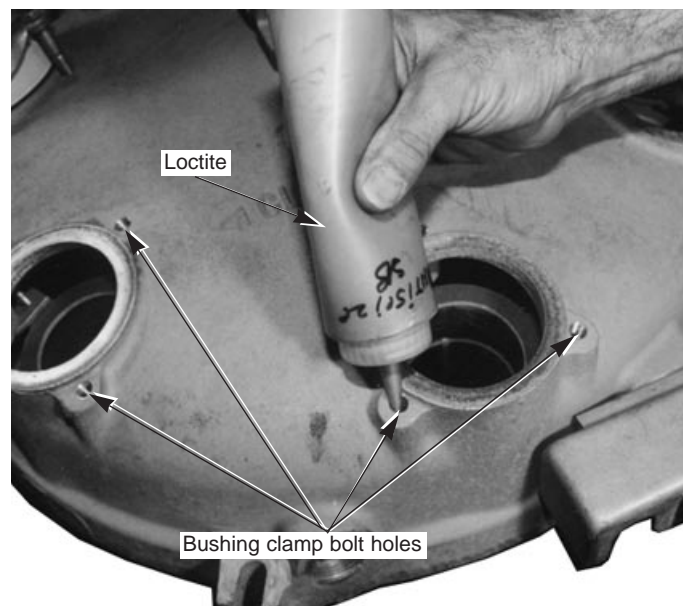

Figure 15.
A. Place Loctite into the bushing clamp bolt holes on top of the head casting (shown in Figure 15).